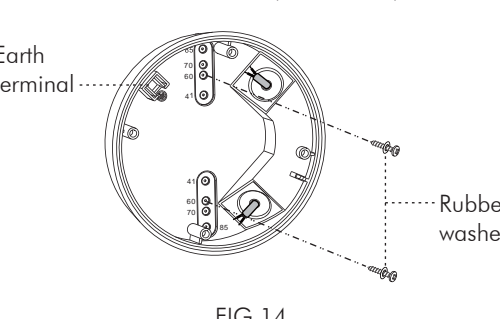

FIG.14
3.4.3.3 Choose proper knockouts to fix the junction box KDP3/5 FP on the surface of ceiling board with 2pcs wood screws attached with rubber washer (See FIG.14).